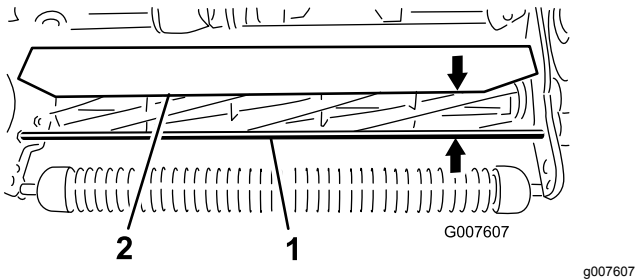

Figure 53
1. Measure the distance from the top of the front support rod to the front lip of the shield at each end of the cutting unit (Figure 53).